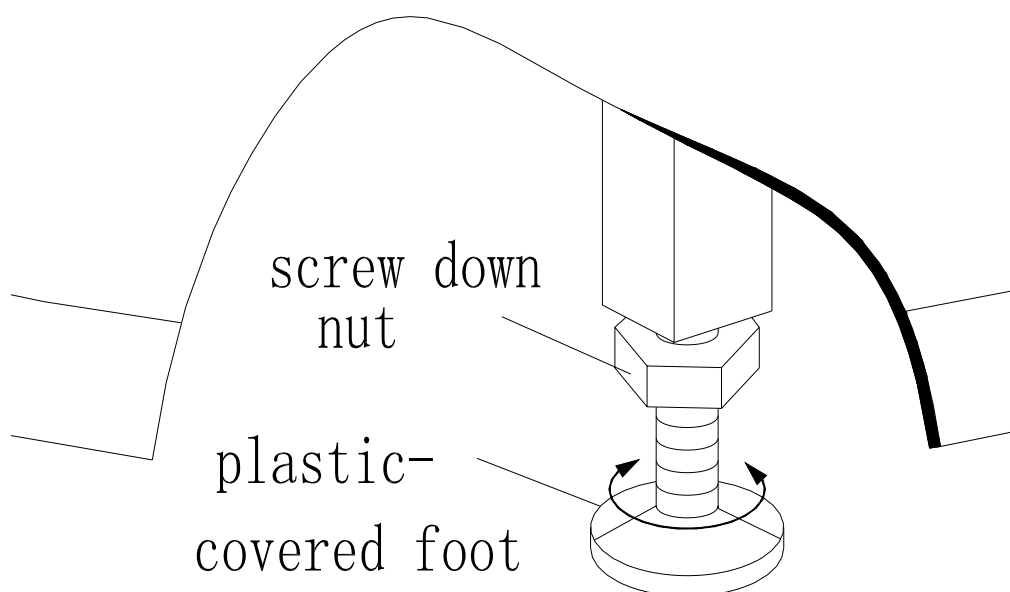

Fig.3
2. Adjust the level — —using the level ruler on the surface of the bathtub to see whether the it is on the level. If it's not on the level (as the Fig.3), tweak to loose the tight bottom screw, adjust the height of the screw to make the bathtub on the level (as the bladder on the middle of the level- ruler), and then screw down it. This step is very important, if the level isn't adjusted, it will make the bathtub sloped and not fastness and find the installation of the screw is difficulty and any other problems.